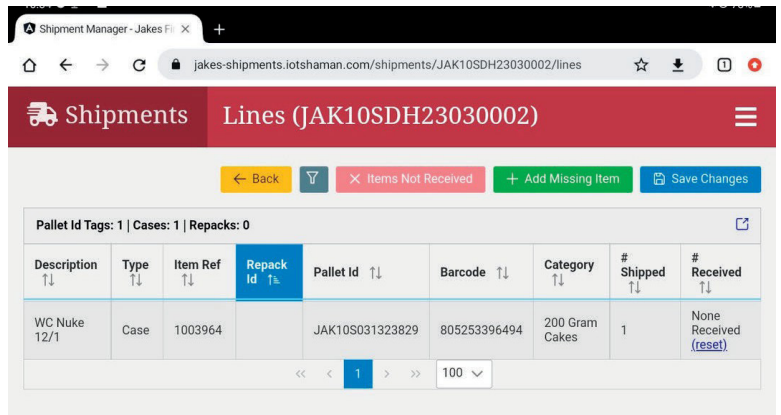

Figure 12
- i. Once this change is saved, NONE RECEIVED will appear as # Received and will not be highlighted in any color (Figure 12).